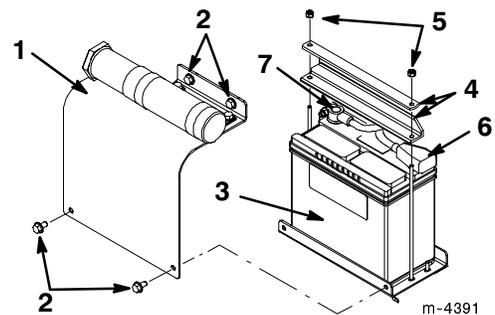

Figure 3
1. Remove the four bolts securing the battery cover and remove the cover (Fig. 3)
2. Remove the nuts and bars securing the battery (Fig. 3).
10. Install the battery onto its platform (Fig. 3).
11. Secure the battery in the chassis with the bars and nuts removed previously (Fig. 3).
12. Connect the positive (red) cable to the positive (+) battery post (Fig. 3). Slide the rubber cover over the battery post.
13. Connect the negative (black) cable to the negative (-) battery post (Fig. 3).
14. Install the battery cover (Fig. 3).